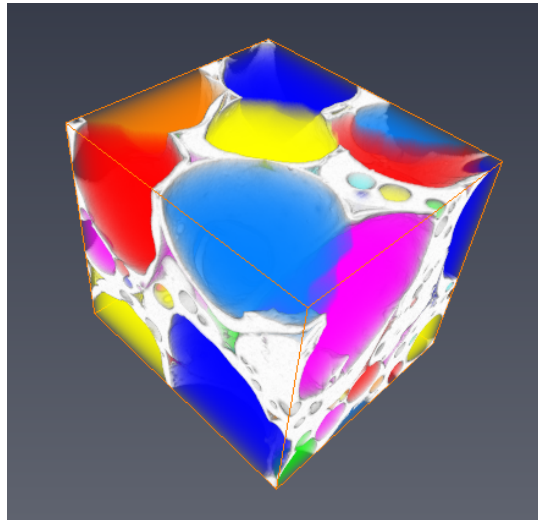

Figure 22.9: Void Data Mixed with Original Data
7. Display the result by creating another *Volume Rendering* module on the previous output (see Figures 22.9 and 22.10).